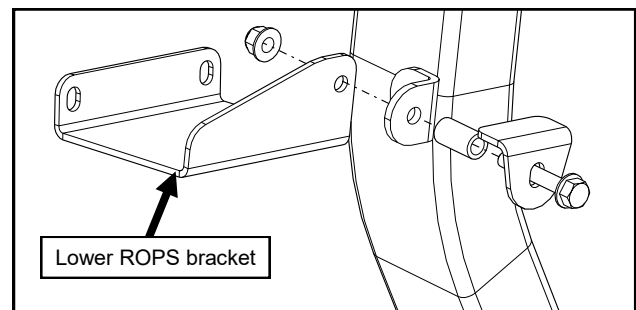

Fig. 2.4 (ROPS Brackets)
2.4 Attach the left lower ROPS bracket between the nut and the lower tab that secures the fuel tank to the ROPS. Leave loose. See Figure 2.4.